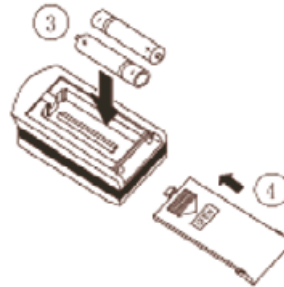

Fig 8.2
2) Take out the old batteries ,insert two AAA alkaline cells(As show in Fig 8.2.)